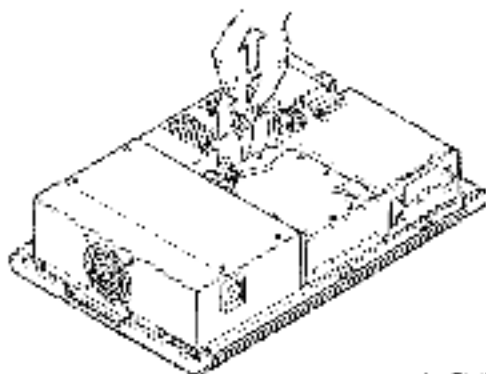

Figure 2-10 Disconnecting I/O Cables from I/O Board
2. Disconnect the two I/O cables from the I/O board. You can disconnect each cable by pulling straight up on the wire cable pin (Figure 2-10).